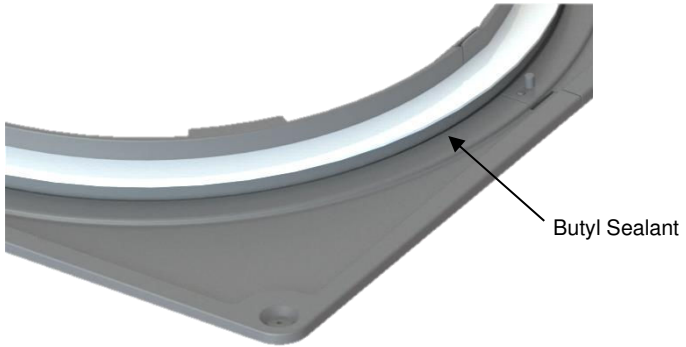

Figure 5
- 2.) With the white tape upward, apply approximately 77” of butyl sealant rope around the perimeter of the base flange where the riser pipe will meet the flange (Fig.5). Cut off remaining butyl sealant & set aside for step 11. Overlap and knead the ends of the butyl rope together to ensure a water-tight seal.